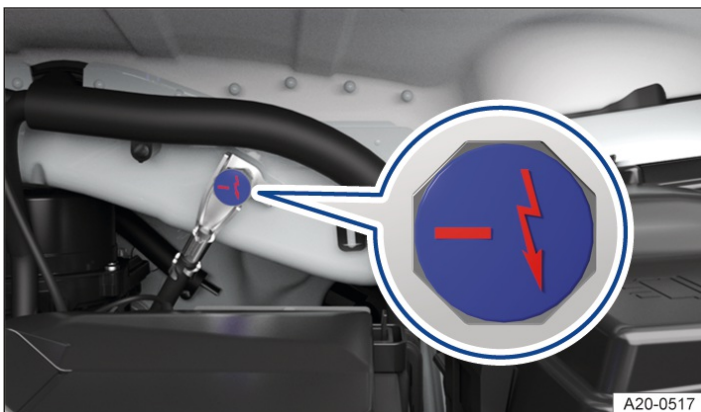

Fig. 1 In the bonnet space: jump-start connection point (earth connection).
- ⊖ The jump-start connection point(earth connection) is used for connecting the *black* jump lead → Fig. 1.